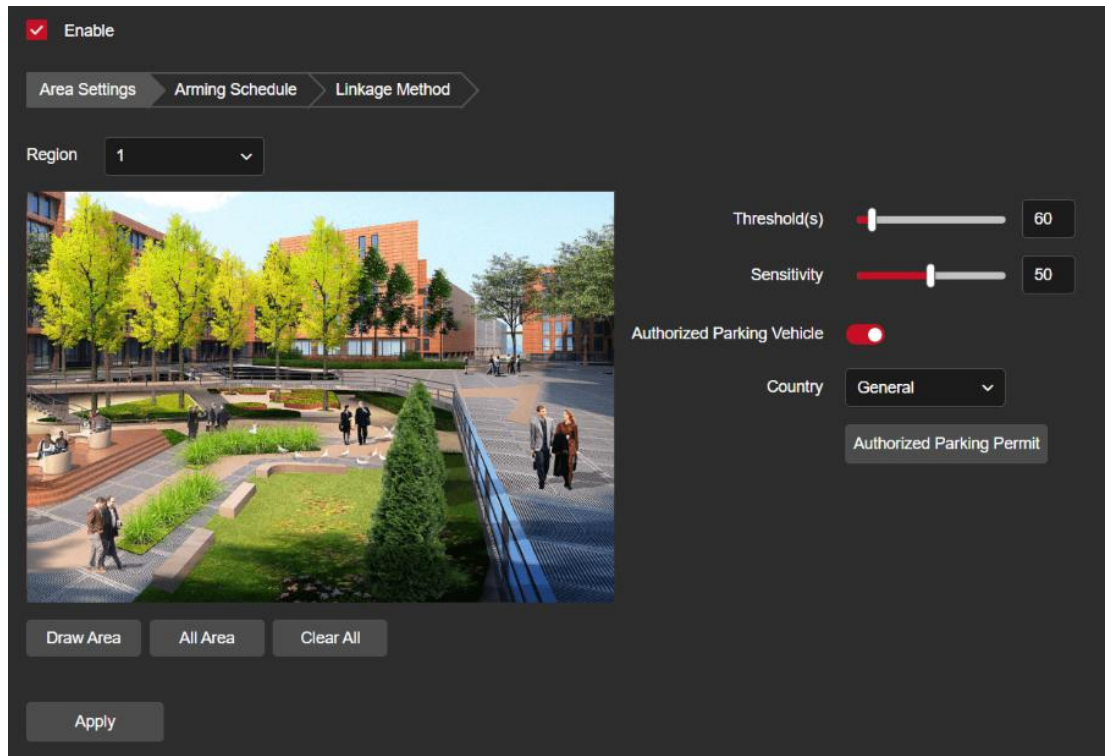

Figure 8-6-42
Step 1: In the main interface click on the "Configuration → Event → Smart Event→ Illegal Parking" to enter the illegal parking settings interface, as shown in Figure 8-6-42.